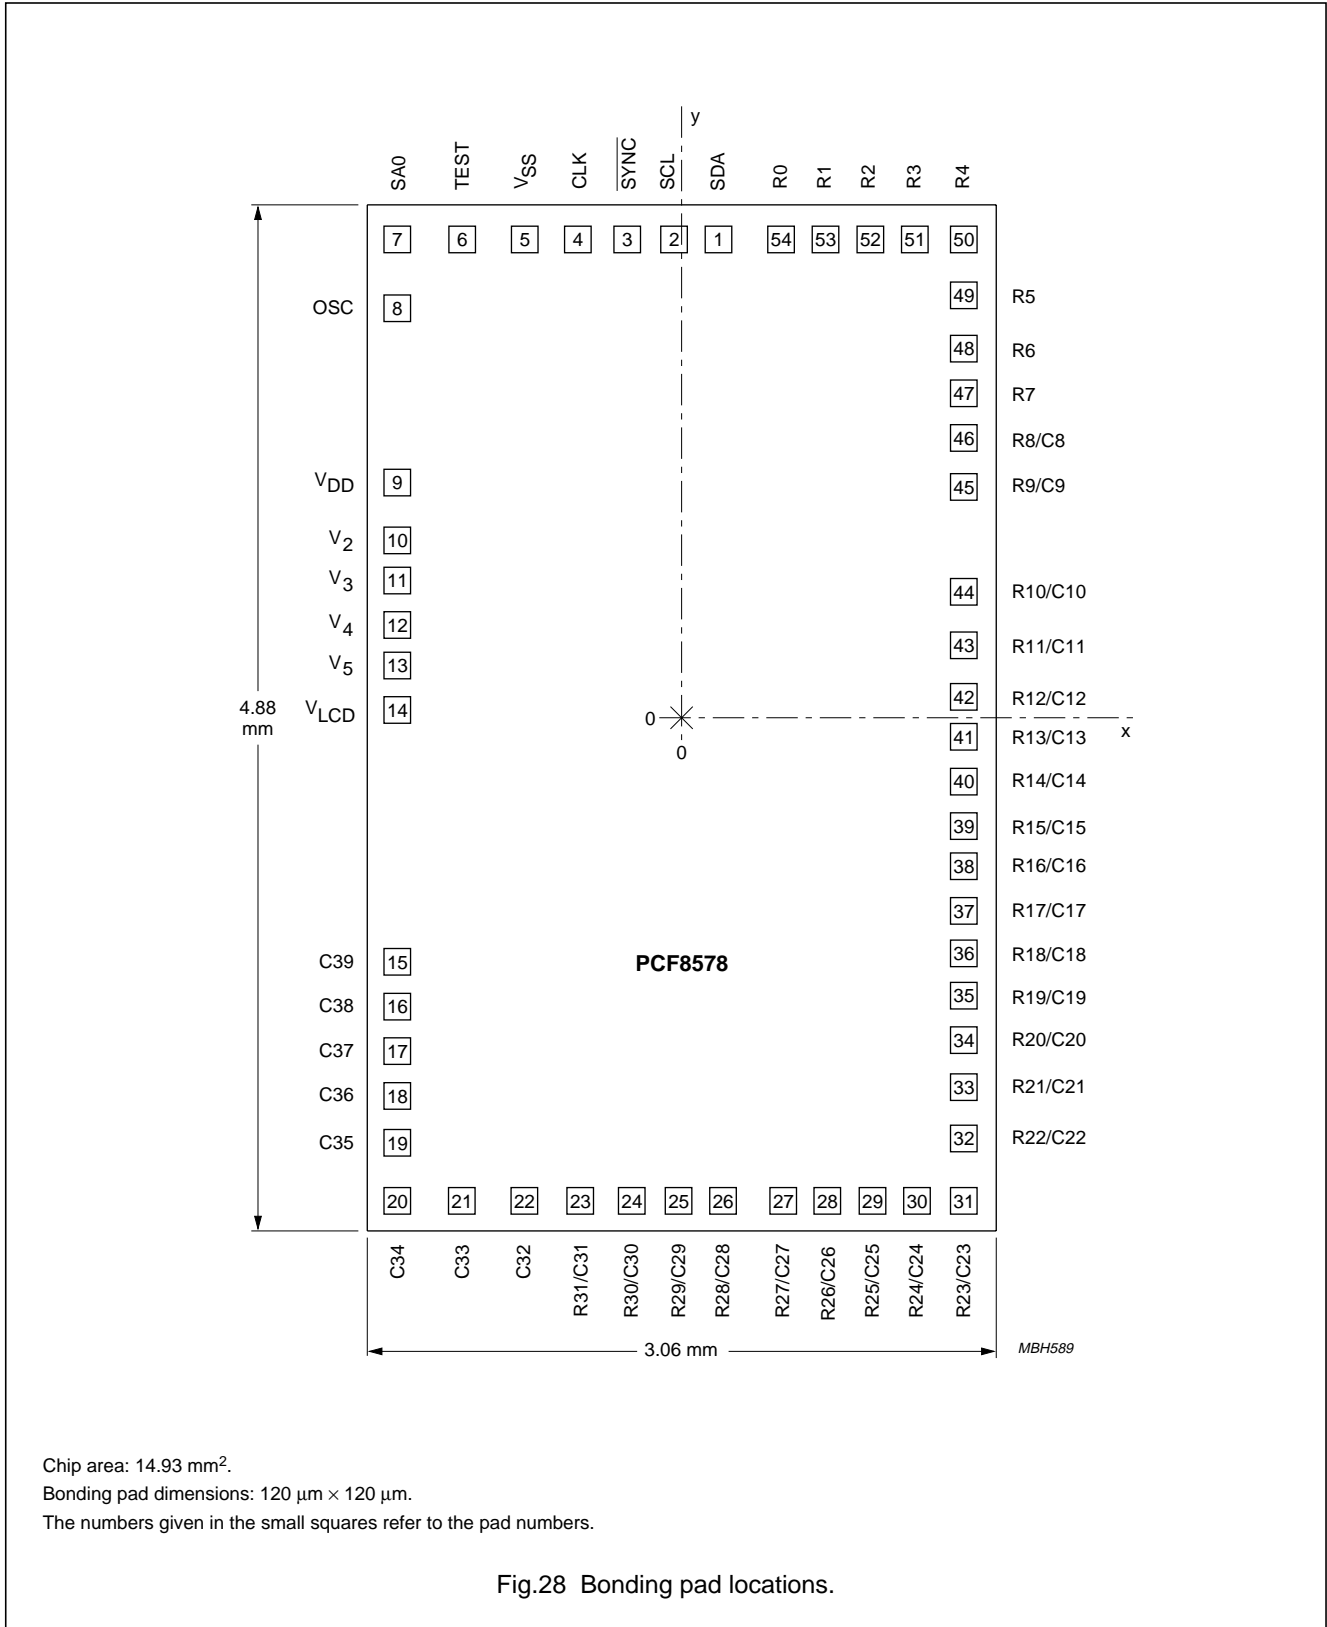

Fig.28 Bonding pad locations.
**Table 15** Bonding pad locations (dimensions in  $\mu\text{m}$ ); all x/y coordinates are referenced to centre of chip, see Fig.28